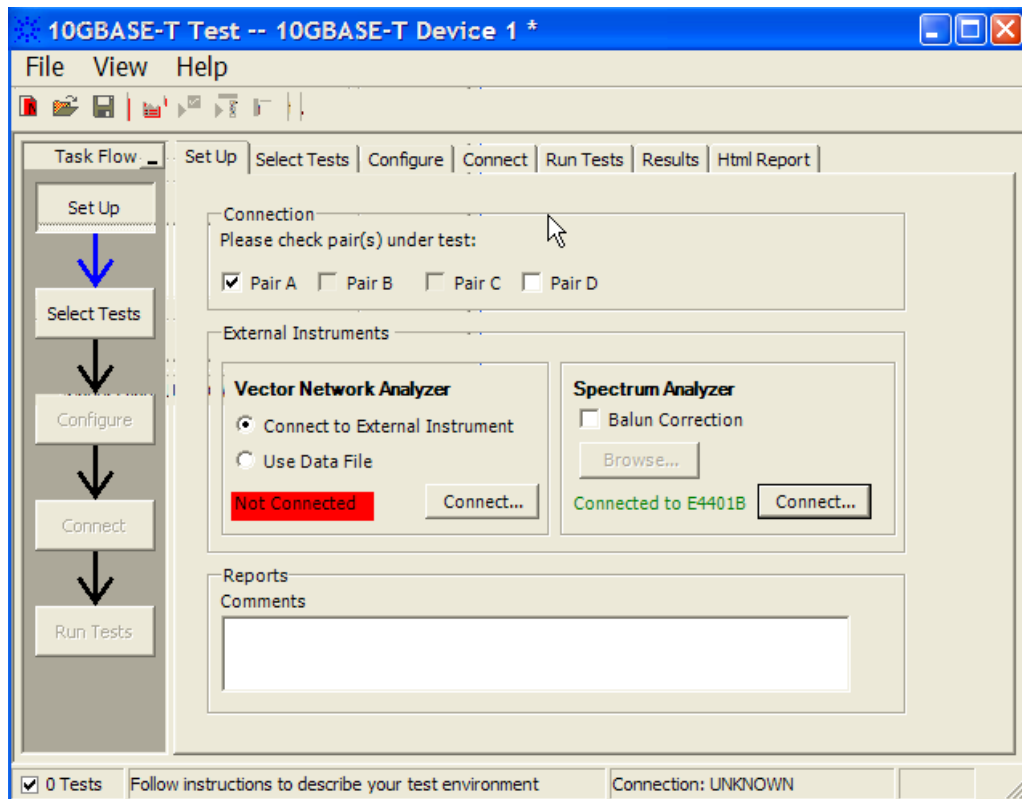

Figure 25 Setup page after application has detected the spectrum analyzer
- 9 Once the application detects the spectrum analyzer, it is indicated on the Setup page as shown in Figure 25 below.